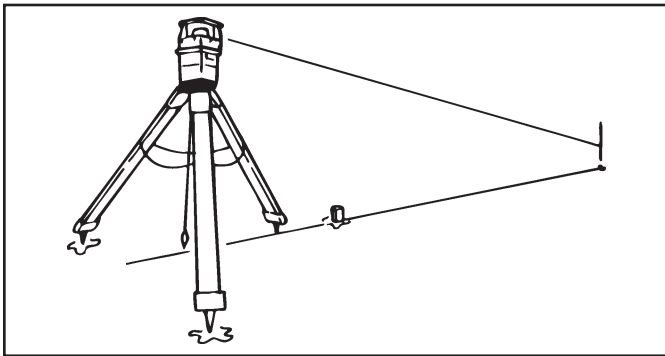

Figure 5. Method One: Align Rotating Laser with Grade Stakes
1. Set a minimum of two grade stakes exactly in line with one of the axis to be graded (Refer to Figure 5).